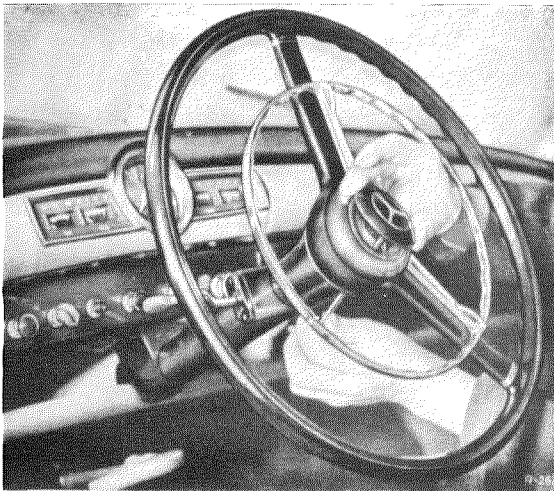

Fig. 46—2/1
Then use a piece of welding rod approximately 20 cm long to press the trademark plate off the steering wheel from below (Fig. 46—2/1).
3. Pull out the cotter pin for the horn ring adjusting nut and unscrew the adjusting nut. Take off the horn ring together with contact disk, compression spring, insulating plate and contact cup (see Fig. 46—2/4).